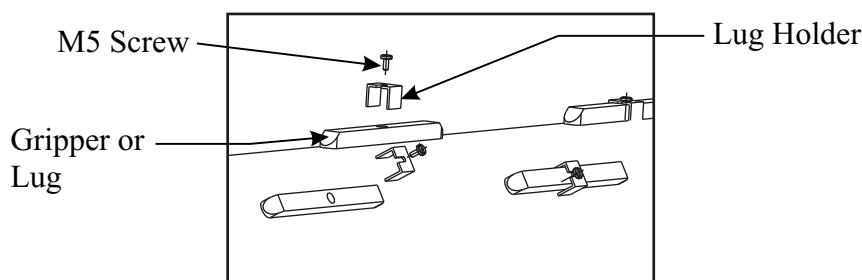

Figure 5: Lugs Are Being Held With Help Of M5 Screws And Lug Holders.
1. First of all, hold the lugs (Rubber/Metal) with the help of M5 mm screws and holder. Tighten the lugs so that they do not fall down while disassembly. (Shown in Figure 5).